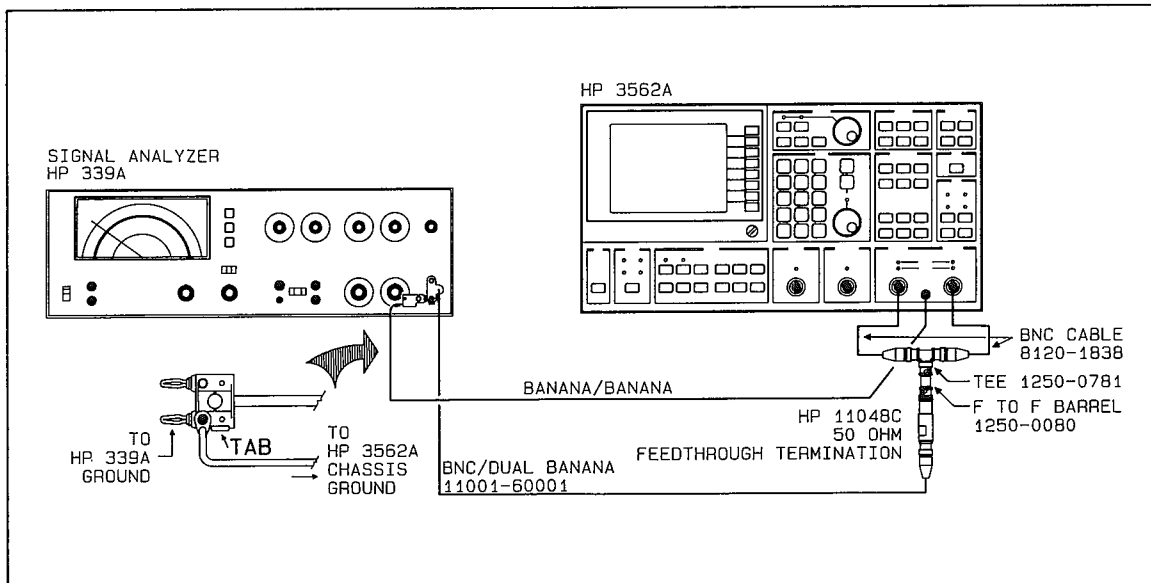

Figure 2-21 Harmonic Distortion Test Setup #1
- A. Connect the test instruments as shown in figure 2-21. Refer to "Initial Equipment Setup," paragraph 2-20, for unspecified parameters.